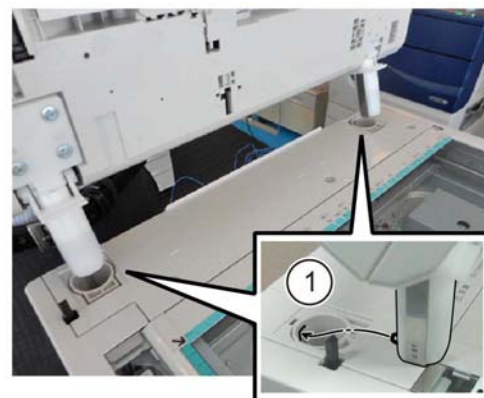

Figure 3 DADF replacement
2. Install the DADF by inserting the tabs of the counter balance into the grooves of the installation holes (1), Figure 3.